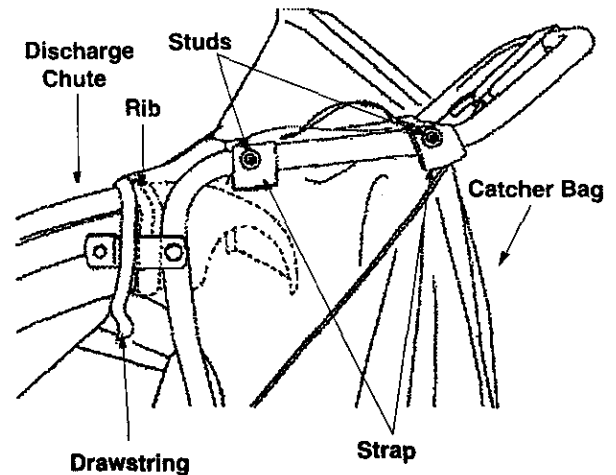

Figure 8
- Squeeze the clamp on the drawstring and pull the drawstring tight. Release the clamp. See Figure 8.